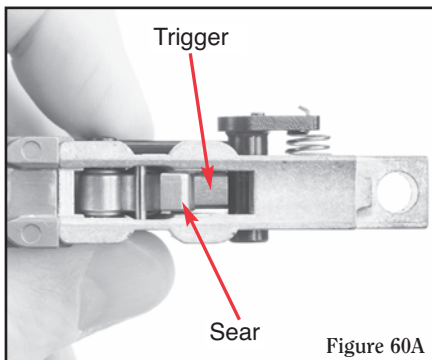
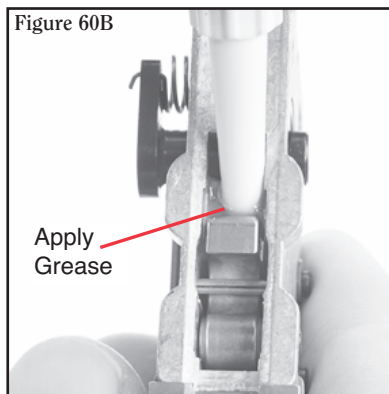
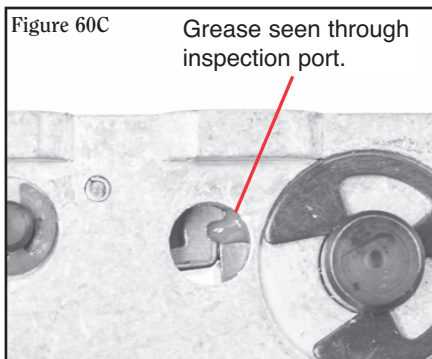

Figure 60A
Figure 60B
Figure 60C
5. Using the Slip 2000® EWG syringe, apply grease to the trigger and sear (see Figure 60A). Insert grease where the sear meets the top of the trigger (see Figure 60B), until a 1/8" bead forms between the parts. Note the grease will spread along the surfaces and be visible through the inspection ports as shown in Figure 60C.